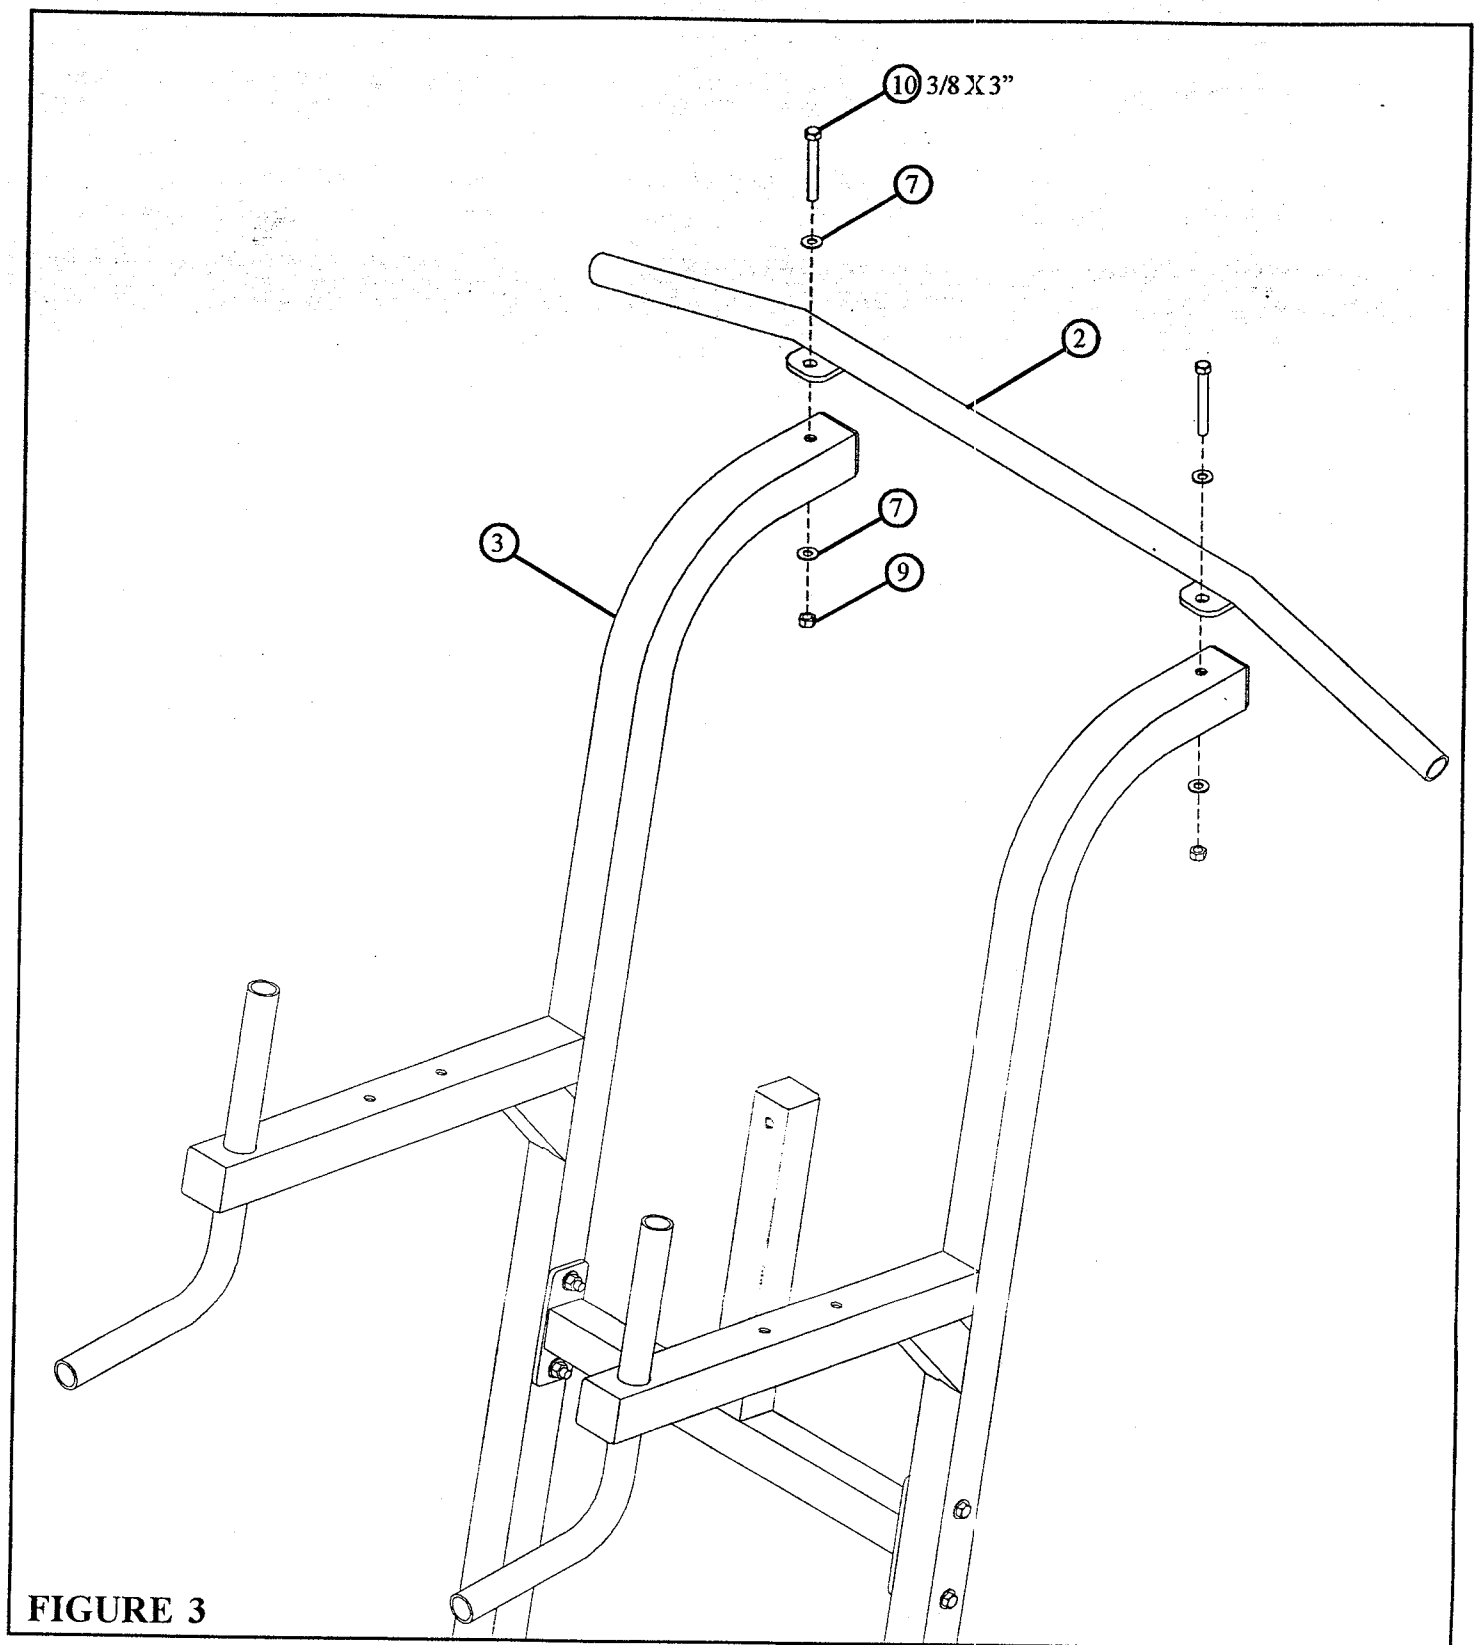

**FIGURE 2**
- **LOOSELY** assemble the UPPER BACK SUPPORT (4) to the VKR SIDES (3) using two 3/8 X 3" BOLTS (10), four 3/8" FLAT WASHERS (7), and two 3/8" LOCK NUTS (9) as shown in FIGURE 2.
- **LOOSELY** assemble the two BASE CONNECTORS (1) to the VKR SIDES (3) using eight 3/8 X 3" BOLTS (10), sixteen 3/8" FLAT WASHERS (7), and eight 3/8" LOCK NUTS (9) as shown in FIGURE 2.
- Insert one 2" SQ. END CAP (14) into the the end of the UPPER BACK SUPPORT (4) as shown in FIGURE 2.